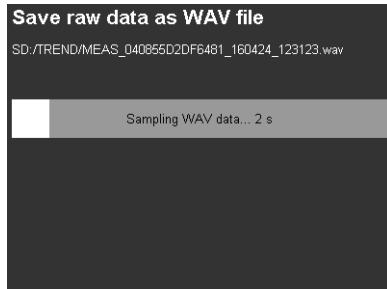

Figure 62: WAV recording
- WAV: Enables the raw data recording of the captured samples of a measurement channel in wave format, saved on an SD card in the TREND directory. A channel is recorded for 20 seconds at a sampling rate of 48828 samples/second with 24 bit resolution (figures 62 and 63). The samples are the raw data from the analog-to-digital converter. A gain of 1, 10 or 100 can be set before saving. The resulting output ranges are ± 10 V, ± 1 V or ± 0.1 V. A comment block ICMT containing information on the instrument and its settings is stored in the header data.